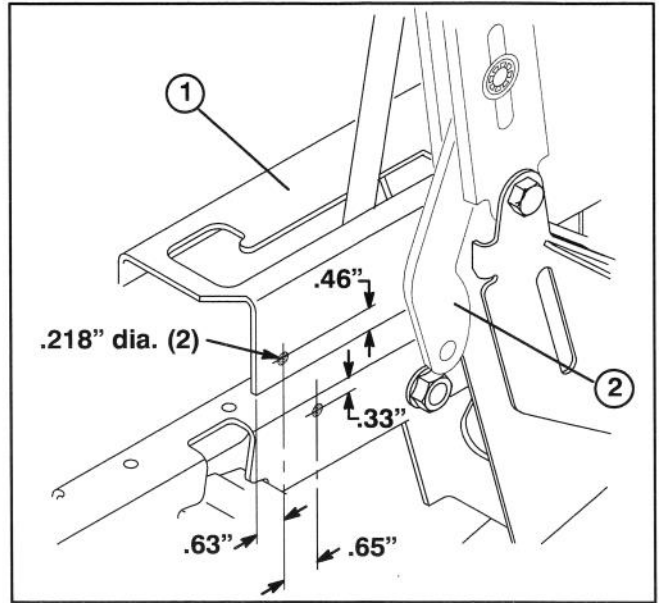

Figure 3
9. Remove (15) screws and washers securing front hood to vehicle frame and remove hood.
10. Insert end of harness, with male and female spade terminals on it, up through opening in vehicle floor board, toward dash panel, following vehicle wire harness. Secure harness to vehicle wire harness with (2) cable ties.
14. Using dimensions shown in figure 3, locate, mark and drill (2) .218" (7/32") dia. holes in vehicle console.